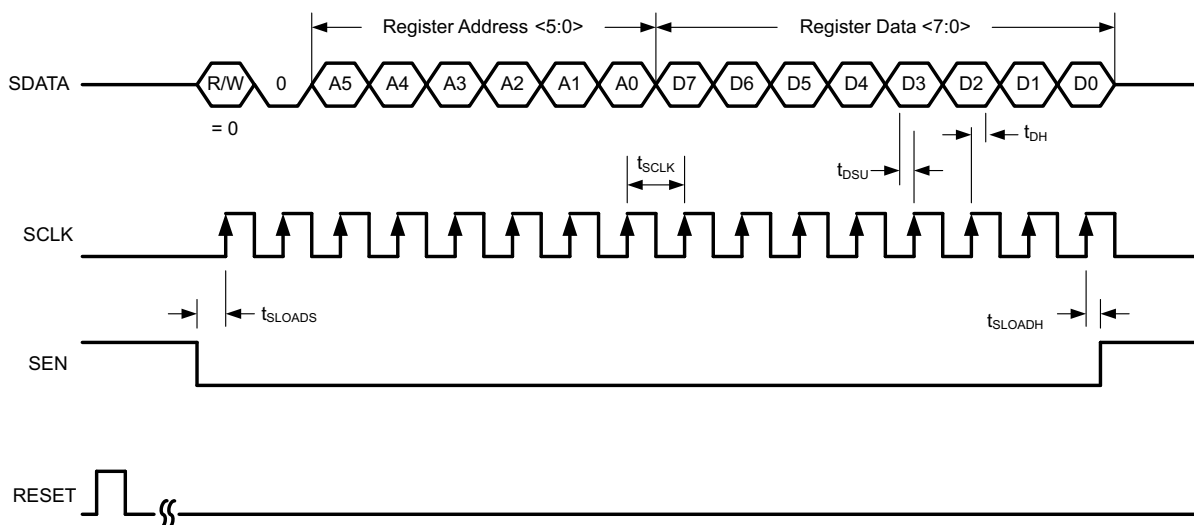

Figure 13. Serial Register Write Timing Diagram
1. Either through hardware reset by applying a high pulse on the RESET pin (of width greater than 10ns), as shown in Figure 13; or